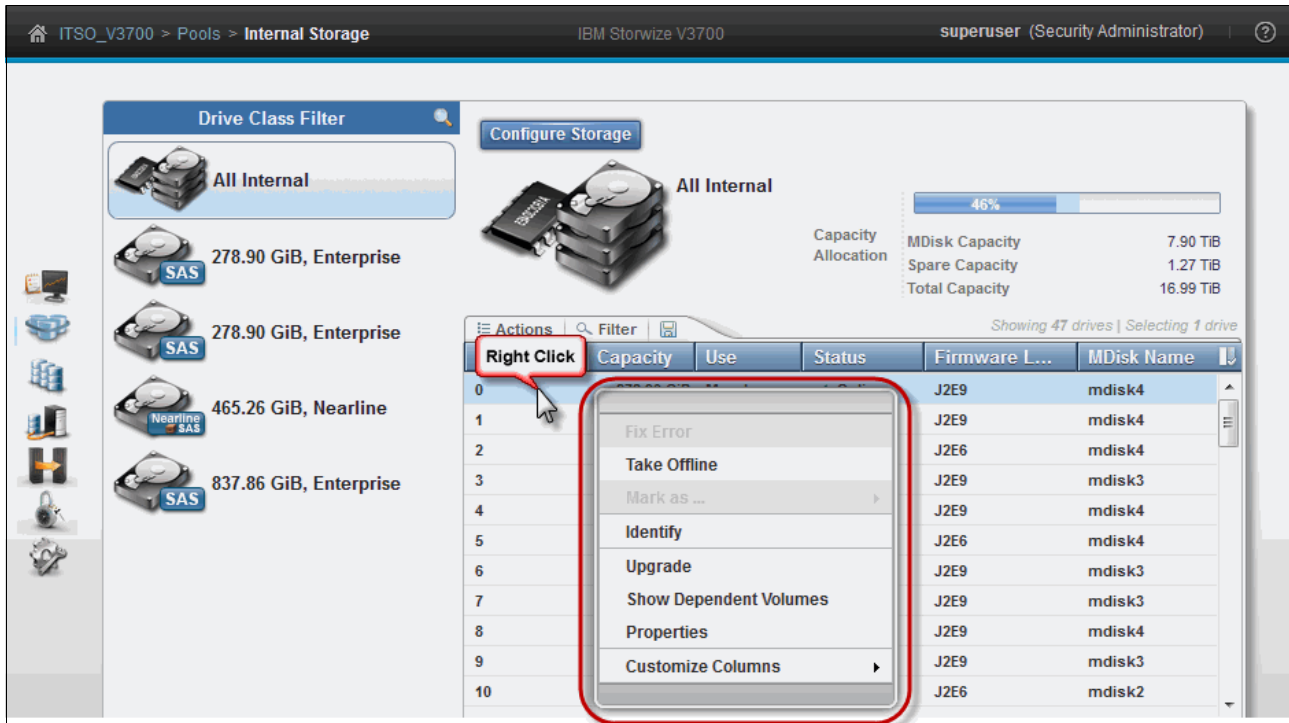

Figure 3-13 Right-clicking an item to access the Actions menu
- ▶ Right-click the resource, as shown in Figure 3-13.